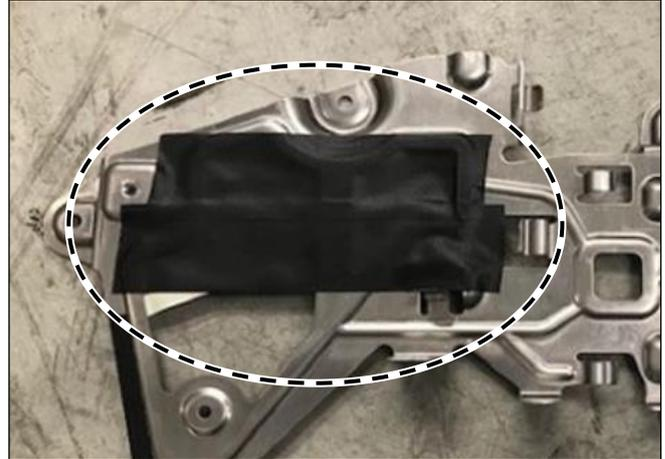

Figure 4
**i** Figure 4 shows the holder for the fuse and relay module in rear in the removed status!